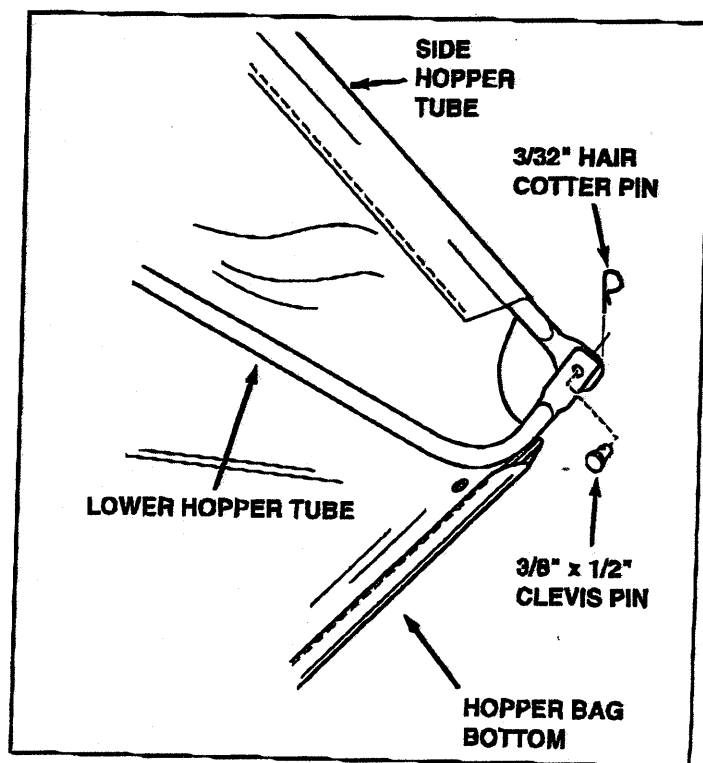

FIGURE 2
- (1) 1/2" Wrench
4. Attach the ends of the lower hopper tubes to the inside of the side hopper tubes using the two 3/8" x 1/2" clevis pins and 3/32" hair cotter pins which came preassembled to the tubes. See figure 2.